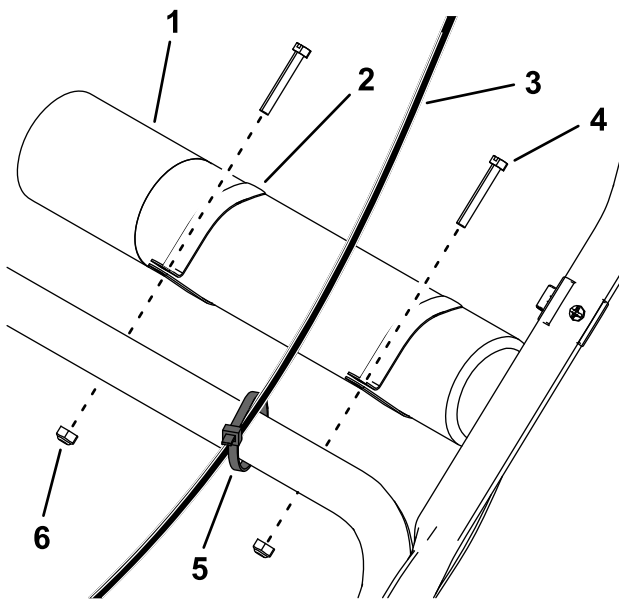

Figure 4
2. Secure the throttle cable over the lower handle using a cable tie (Figure 4).
- Slide the clamps onto the *Operator's Manual* tube and install it on top of the lower handle using 2 slotted-head bolts and 2 locknuts (Figure 4).